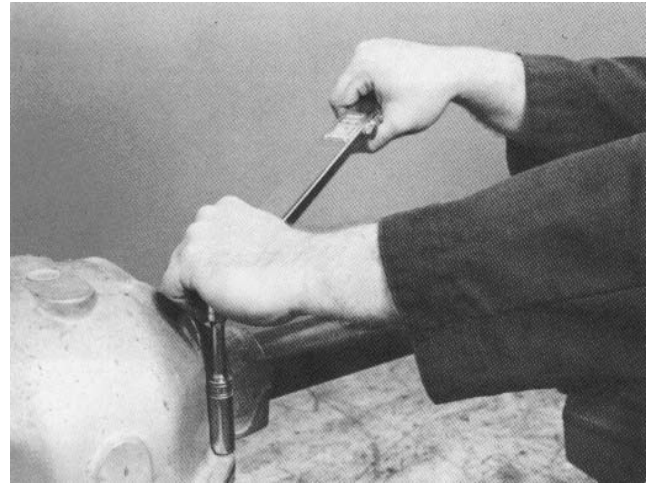

Figure 41
22. Apply silicone sealant between the front and rear axle housings and install the eight housing cap screws. Tighten the cap screws to a torque of 18-23 ft-lbs. (24-31 Nm) (Fig. 41).